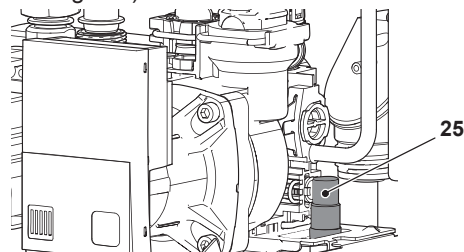

Fig. 9.3
- Open the central heating drain cock (25 in Fig. 9.3).